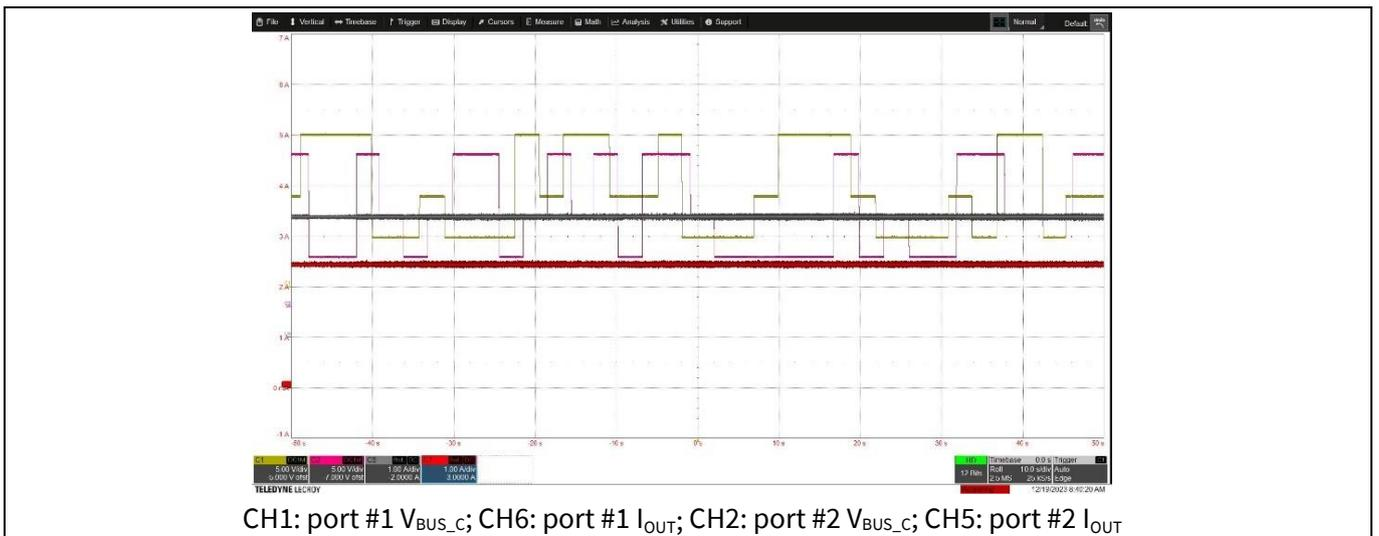

Figure 42 $V_{IN} = 22.5 V_{DC}$; V_{BUS_C} : continuously changing from 5 V to 9 V to 15 V (PDO); $I_{OUT} = 2.5$ A
- **Electrical stress test #2** $V_{IN} = 22.5 V_{DC}$; V_{BUS_C} : randomly changing from 5 V to 9 V to 15 V (PDO); $I_{OUT} = 2.5$ A for a duration of 60 minutes. Captured waveforms are shown in Figure 42